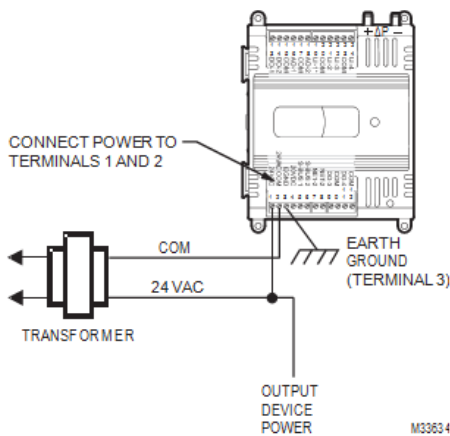

Figure 11: Power Wiring details for one Controller
To mount the CVB4024NS-VAV1 controller on a DIN rail [standard EN50022; 1-3/8 in. x 9/32 in. (7.5 mm x35 mm)], refer to Figure 11 and perform the following steps:
4. Do not connect the universal input COM terminals, analog output COM terminals or the digital input/output COM terminals to earth ground. The 24 Vac power from an energy limited Class II power source must be provided to the controller. To conform to Class II restrictions (U.S. only), the transformer must not be larger than 100 VA. Figure 11 depicts a single controller using one transformer.